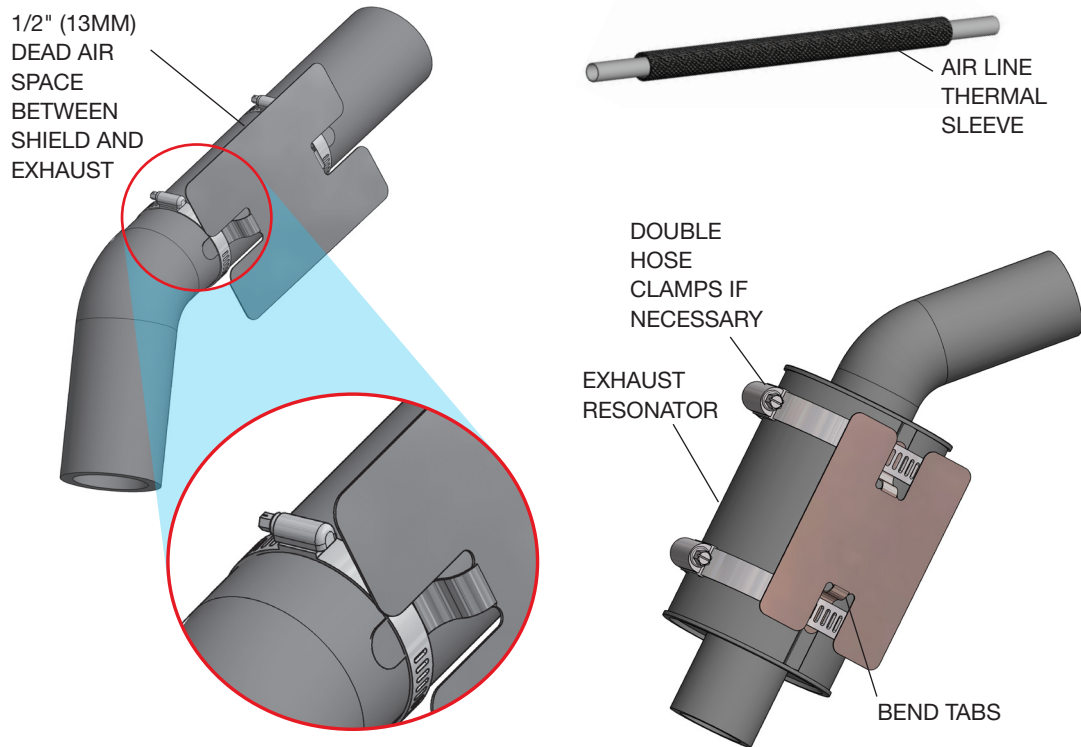

Fig. 20
1. Attach the metal heat shield to the exhaust where it is closest to the air spring. Slide the air line thermal sleeve over the air line and place it where the air line is closest to the exhaust (Fig. 20).